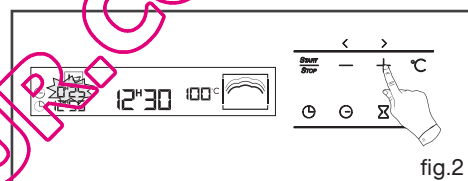

fig.2
Adjust the clock setting with the + and - touch controls (fig.2).
- 0:25 flashes (fig.2).